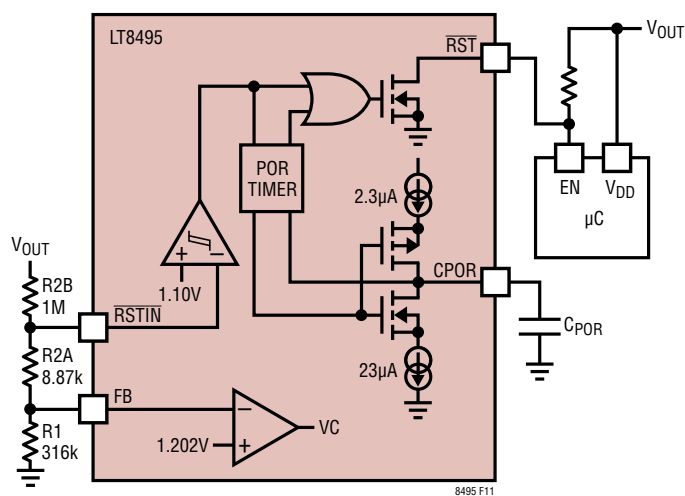

Figure 11.  $\overline{RSTIN}$  Reset Lockout
**Output UVLO:** Connecting the  $\overline{RST}$  and  $\overline{RSTIN}$  pins as shown in Figures 11 and 12 implements an output undervoltage lock out (UVLO) circuit. This circuit resets  $V_{OUT}$  powered devices when  $V_{OUT}$  is below a desired voltage by asserting the open drain  $\overline{RST}$  pin low. Note that a pullup resistor is required on the  $\overline{RST}$  pin, but might already be integrated in the  $\mu C$ . There is typically a 23 $\mu s$  delay from the  $\overline{RSTIN}$  pin falling edge until  $\overline{RST}$  is asserted low (see Electrical Characteristics section) for glitch immunity of the  $\overline{RSTIN}$  pin. After  $\overline{RSTIN}$  rises above its threshold,  $\overline{RST}$  continues to be asserted low for a delayed time programmable by the CPOR pin capacitor.
In the example shown in Figure 11,  $V_{OUT}$  is regulated to 5V. For a desired UVLO% of 89.5%, the calculated R1, R2A, and R2B values are 316k, 8.87k, and 1M respectively.